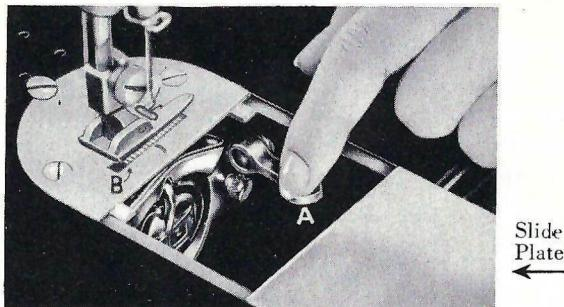

Fig. 6
- a. Move slide plate (Fig. 6) to extreme left.
- b. Press lever "A" (Fig. 6) down, thus lowering and